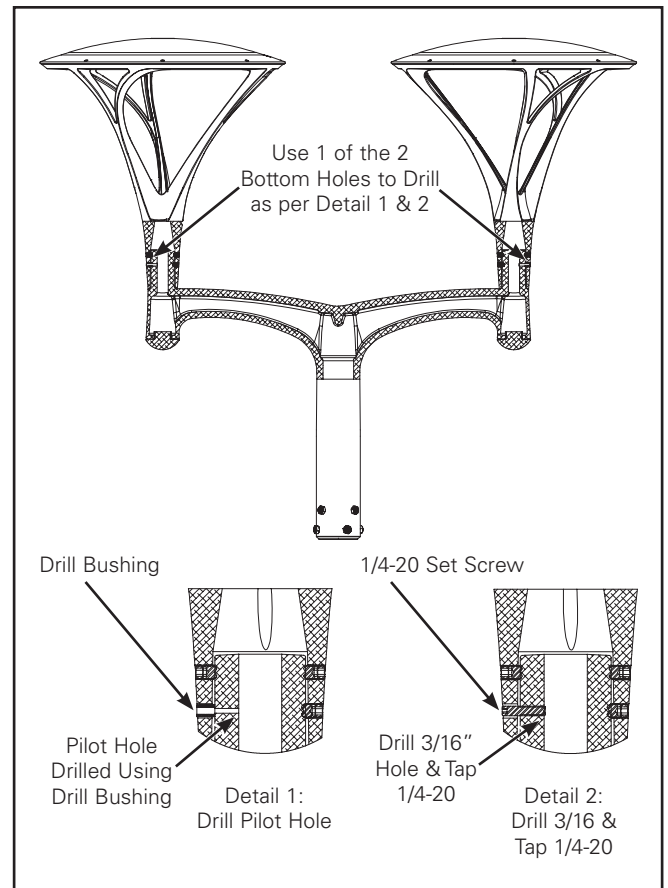

Figure 13.
7. Use one of the two bottom most holes on the luminaires as a template to drill a pilot hole into the twin arm tenons (two places on the arm one on each tenon). Use the drill bushing provided and insert it in one of the bottom holes of the luminaire and drill a 3/16" pilot hole through the bushing into the tenon. Drill the hole until the drill clears tenon wall on one side. (Figure 13.)
8. Take out the drill bushing and use a 3/16" (.203) drill bit to open up the pilot hole. Tap this hole to 1/4-20 UNC thread. (Figure 13.)
- Use the 1/4-20 x 1-1/4 set screw provided for the hole drilled in step 8 (Figure 13) and tighten until the screw is flush to the outside surface in location. Install five 3/8-24 x 3/8" set screws to hold each luminaire on arm tenon and tighten to 15 inch-lbs. (1.25 ft. lbs.)